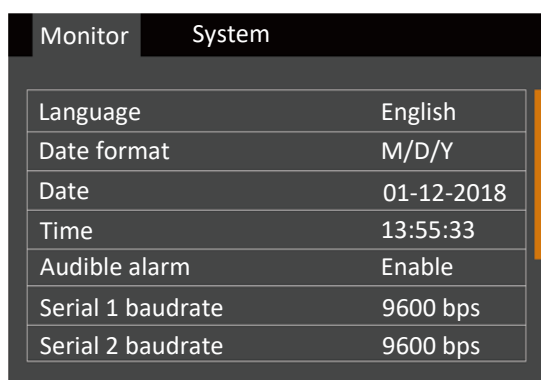

Figure 5-17 Monitor Interface
2. Press the  key to move the cursor to 'Monitor', see Figure 5-17.